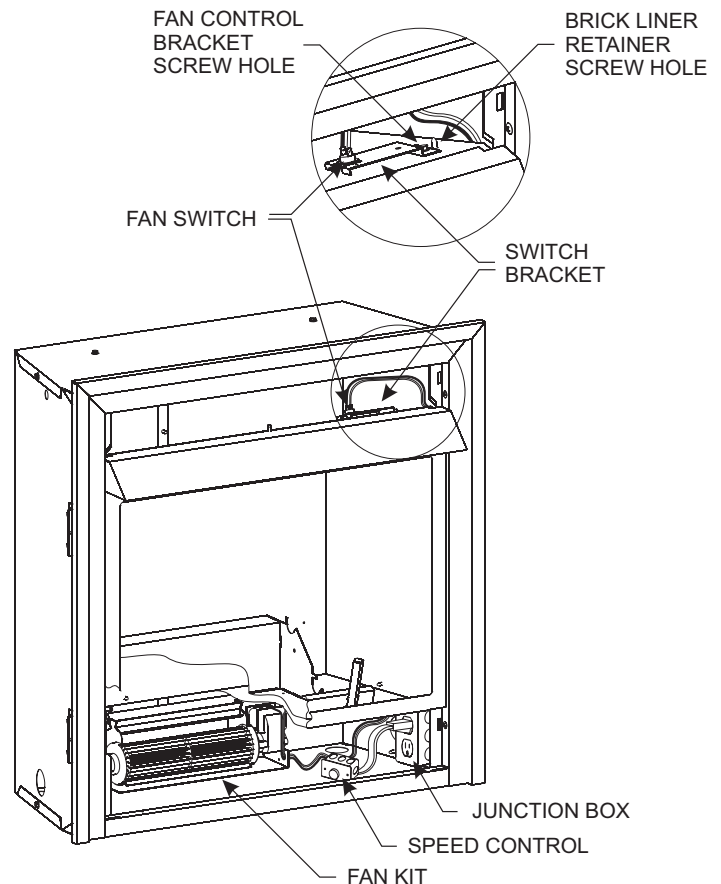

Figure 27
13. Attach fan control bracket to upper right side of firebox with one #10 x 1/2 hex screw provided. See Figure 27.